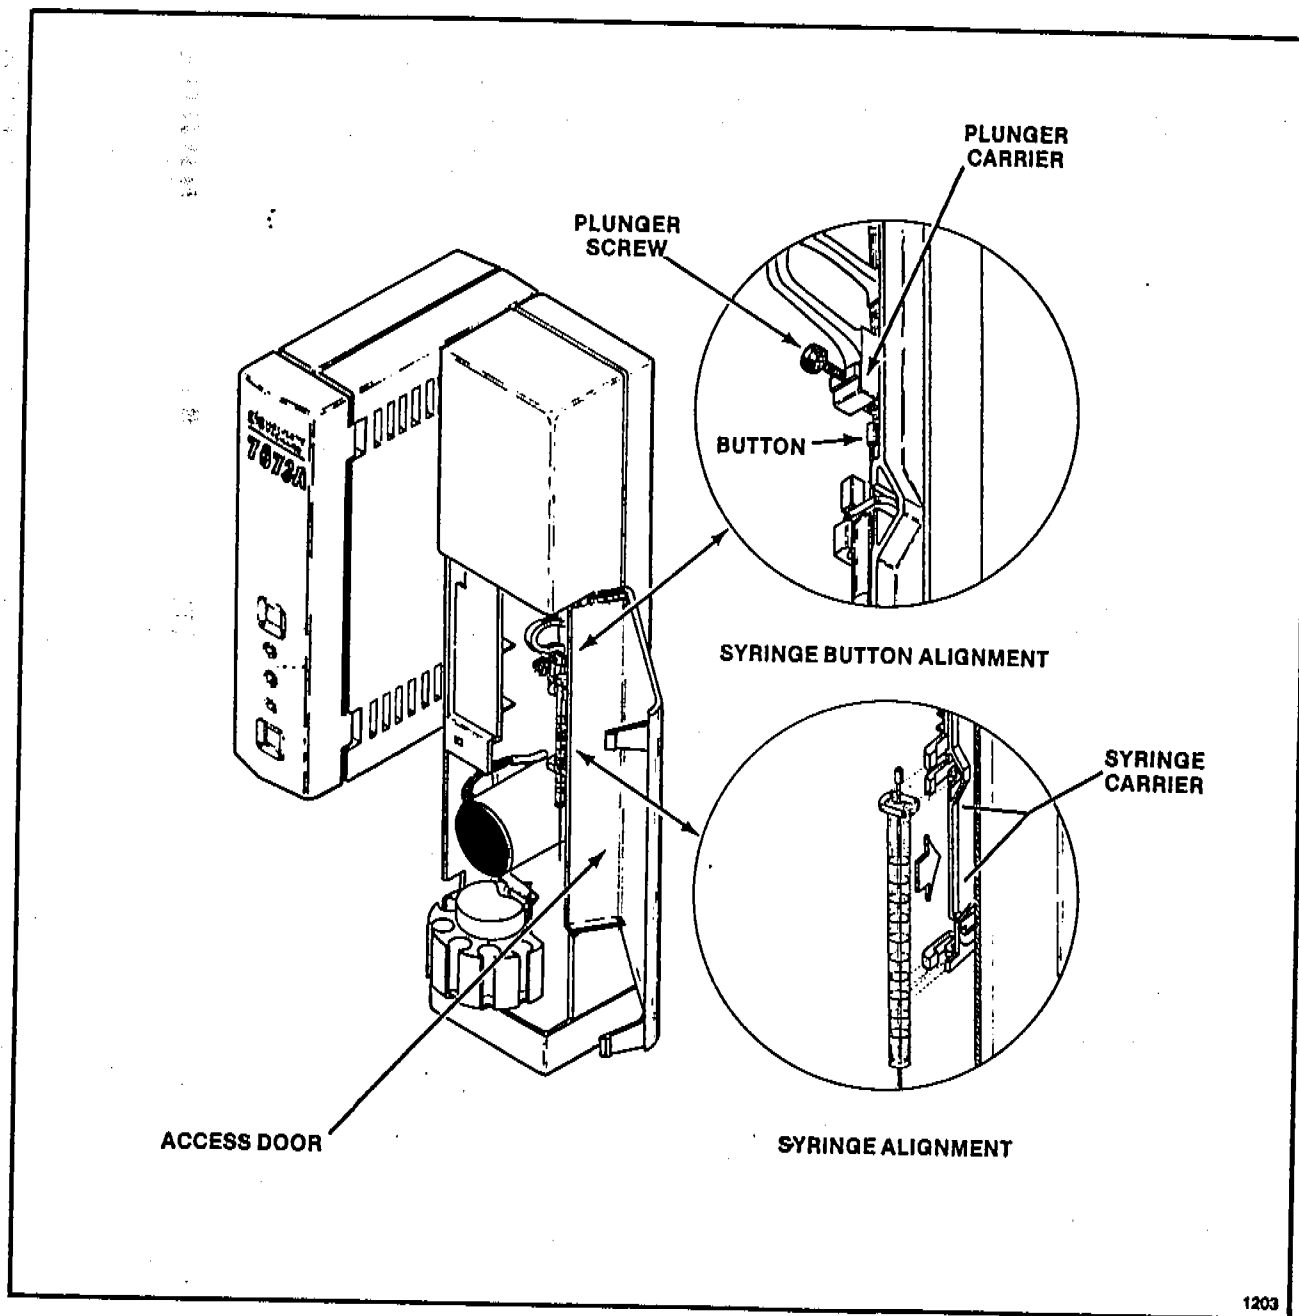

Figure 2-4. Syringe Installation
4. Align the syringe with the syringe carrier (see Figure 2-4).